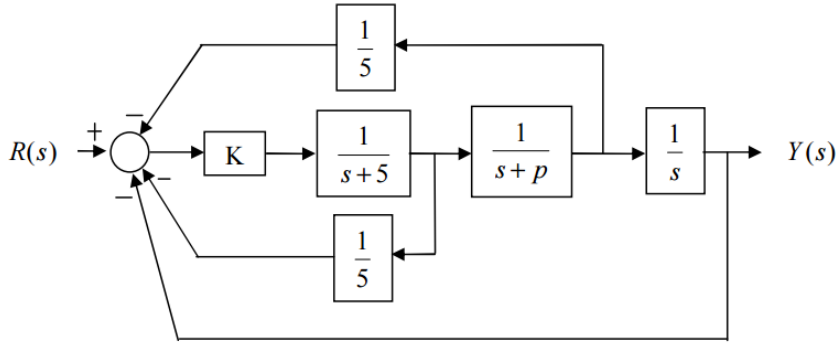

Figure 1: Spark ignition system — a block diagram representation.
- The system shown in Figure 1 is a typical block diagram representation depicting a simplified spark ignition system of an engine. Two parameters of this system are the gain K and performance parameter p . The performance parameter can take two values: $p_1 = 0$ and $p_2 = 2$. The objective of this problem is to design a gain K to stabilize the initially unstable system. Answer the following questions.